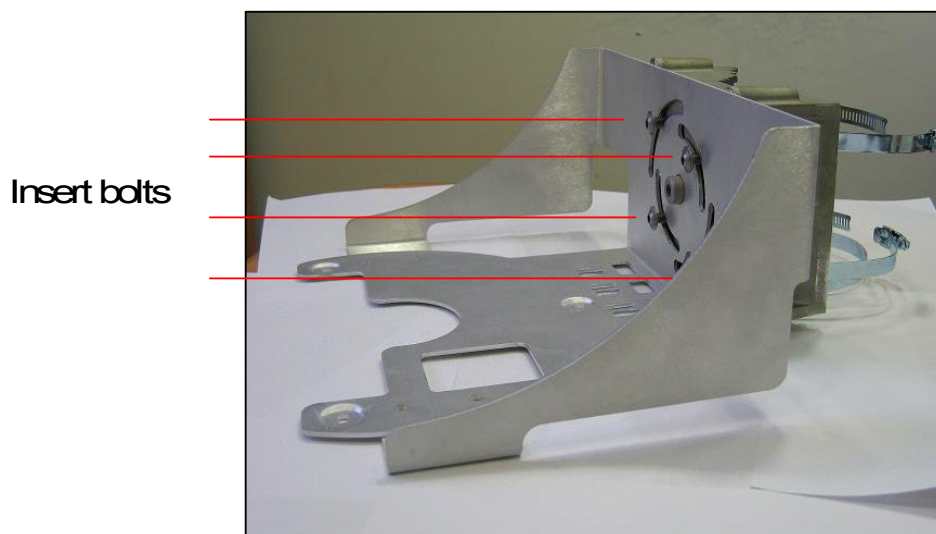

Figure 3.5. **Attaching the Tray to the Back Plate**
- 6. Attach the tray to the back plate as shown in Figure 3.5.